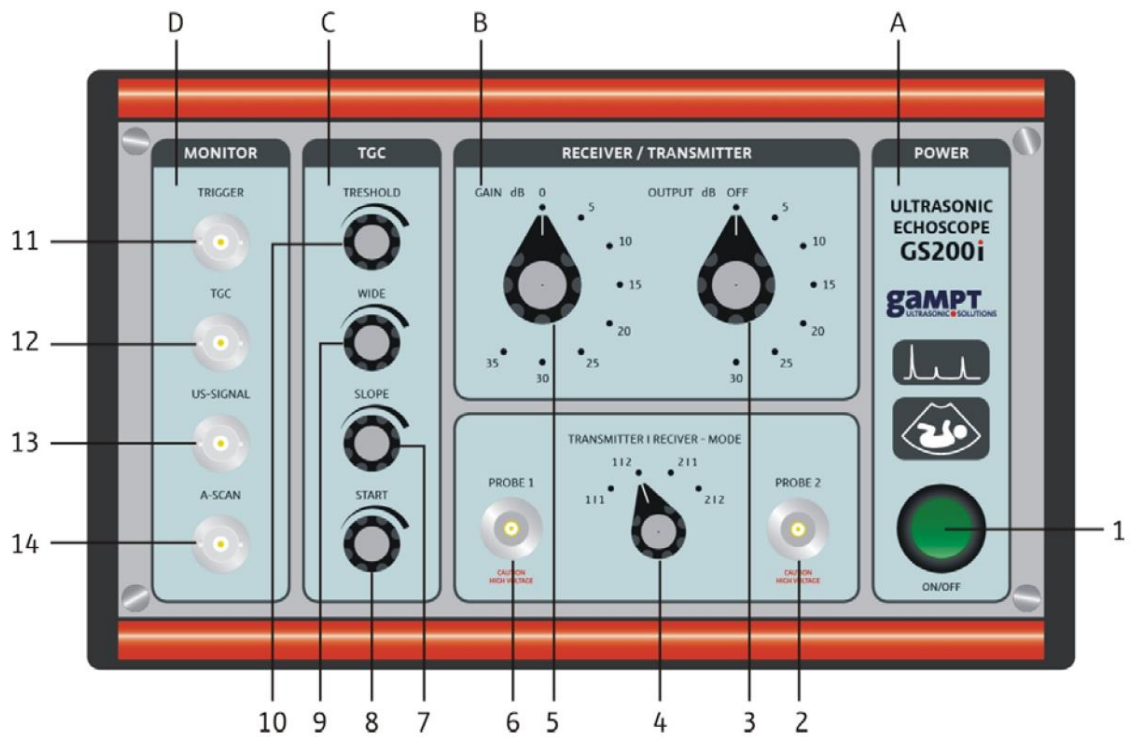

Figure 3. Front panel of the echoscope GS200. Positions of the switches shown here are not necessarily the same that you should set in the work!
- Connect the 4-MHz sensor (green) to the socket “Probe1” (see figure 3). Set the transmitter/receiver mode to “1 | 1” (reflection).
- Set all regulators of the TGC amplification to zero (figure 3, block C) by rotating the TGC control handwheels anti-clockwise up to the stop.